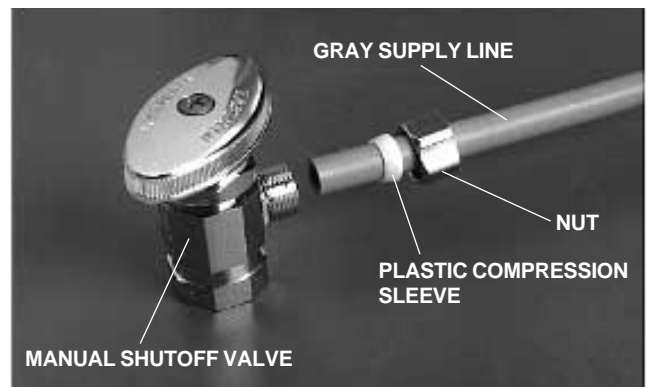

FIGURE 6
2. Remove the nuts from the manual shutoff valves, then discard the brass compression sleeves. Slide the nut and a new plastic compression sleeve onto both gray tubings (see *Figure 6*). Be sure the compression sleeve taper is toward the manual shutoff valve, then tighten the nuts firmly.